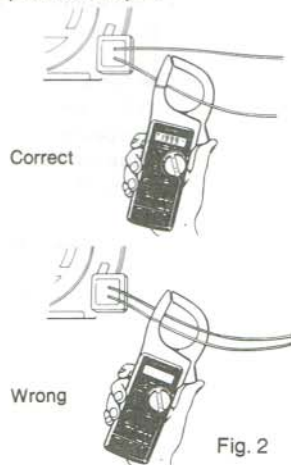

Fig. 2
- Press the jaw trigger to open the transformer jaws and clamp onto one conductor only (Fig. 2).